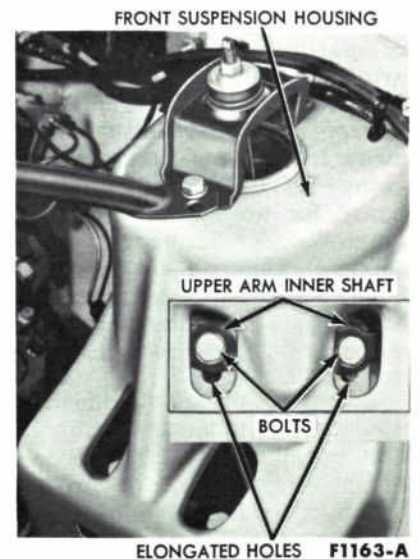

FIG. 80—Removing Upper Arm Shaft
3. Working from the engine compartment, remove the upper arm inner shaft retaining bolts and lockwashers (Fig. 80). Remove the nut from the upper ball joint stud, lift the stud out of the spindle, and remove the arm from the car. Wipe off all loose dirt from the upper arm parts. Do not wash the ball joint with a solvent.
2. Working from the engine compartment, remove the upper arm inner shaft retaining bolts and lock washers (Fig. 80). Pull the upper arm and shaft assembly away from the underbody and swing the assembly 180° outboard for accessibility. Position a stand under the upper arm for support. Unscrew the bushings from the shaft and suspension arm, then remove the shaft from the arm.
5. With the spacer positioned in the arm, torque the bushings to specifications. Move the arm on the shaft to be sure that no binding exists, then remove the spacer. Swing the arm and shaft assembly inboard to the underbody, and install the retaining bolts and lock washers. The arm and shaft assembly should be positioned so that the bolts and caged nuts are centered in the elongated bolt holes (Fig. 80). With the arm and shaft properly positioned, torque the retaining bolts to specifications. Install the front coil spring.